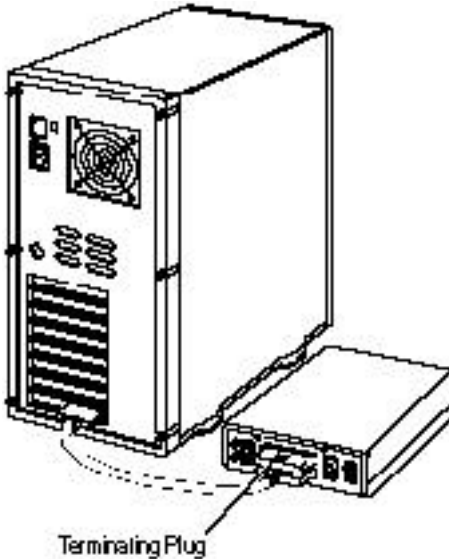

Figure 2-8: Attaching a Single External Device
3. Attach the connector at the other end of the cable to either one of the SCSI connectors on the external SCSI device, as shown in Figure 2-8. (If you are installing only one external device, attach a terminating plug to the device.)
To properly terminate the SCSI channel(s) on your system, refer to the motherboard documentation. On most internal SCSI devices, the termination setting is controlled by setting a jumper or a switch, or by physically removing or installing a resistor module(s). On most external SCSI devices, termination is controlled by installing or removing a terminating plug (see Figures 2-8 and 2-9). Refer to the device's documentation to determine how to enable or disable termination on your particular SCSI device.